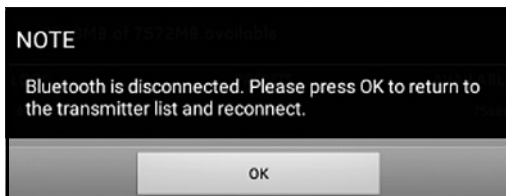

Figure 124: Transmitter Reconnection Screen
6. After the transmitter reboots, the message shown in *Figure 124* below will pop up. Click the **OK** button to reconnect the transmitter.